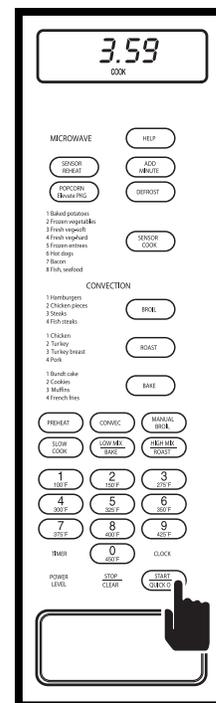

Figure 3-38.
3. Press QUICK ON/START key to begin defrosting. The oven will energize at 30% and display will show the time as it counts down (See Figure 3-38). At the end of defrost time, “END ” will flash on display and alarm will beep.